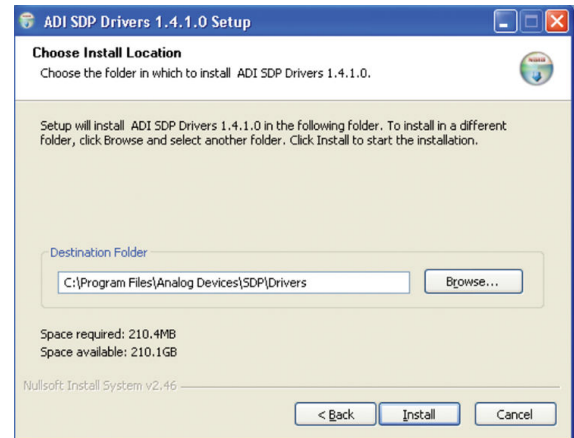

Figure 14. EVAL-SDP-CB1Z Drivers Setup: Selecting the Location for Drivers Installation
- Select the location to install the drivers, and then click **Next** (see Figure 14).